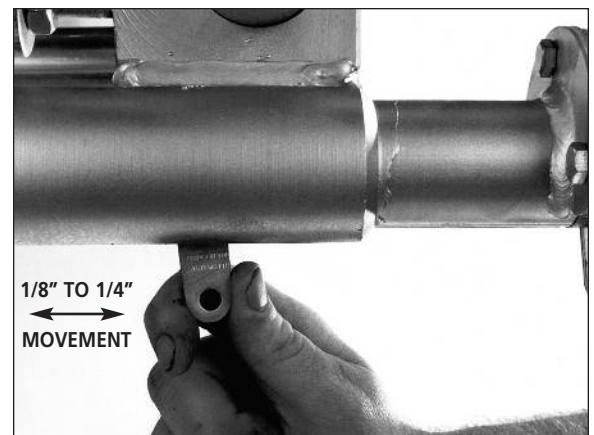

Figure 14
- Check the chain tension as in **Figure 14**. If tension is insufficient, take-up
- Check chain tension. See **Figure 14**.